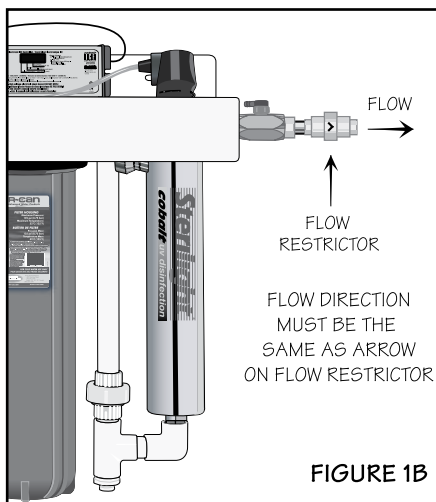

FIGURE 1B
3. Mount the system to the wall with appropriate lag bolts (not supplied) through the two mounting holes located on the metal bracket. The use of a flow restrictor device is strongly recommended when installing your system in order to maintain the manufacturers maximum rated flow. The flow restrictor should be installed on the outlet port and is designed to be installed in one direction only. Ensure that the flow of the water matches the flow direction as indicated on the flow restrictor (Figure 1B). **DO NOT SOLDER CONNECTIONS WHILE ATTACHED TO THE SYSTEM AS THIS COULD DAMAGE THE O-RING SEALS.**